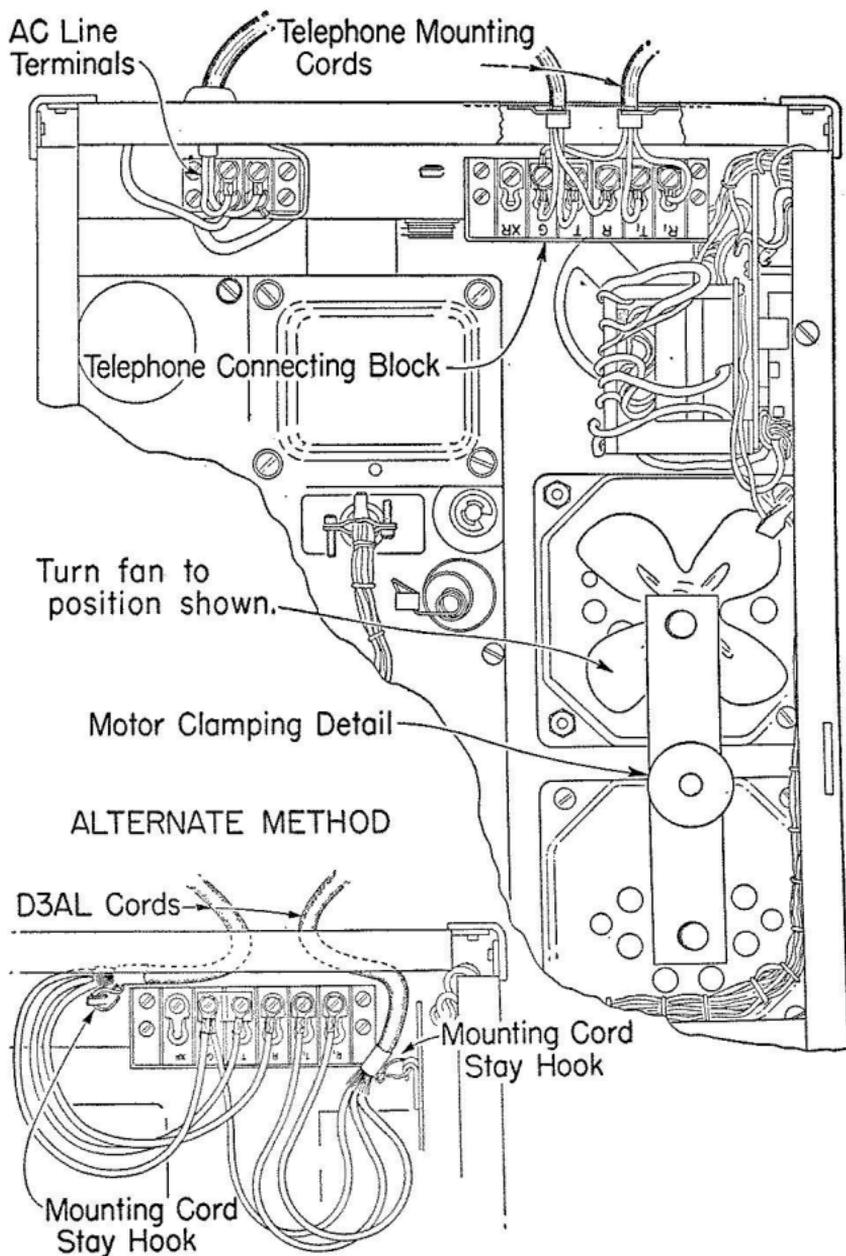

Fig. 4
- (c) Tighten the knurled nut on the motor clamping detail until the two motors are clamped securely against the panel (see Fig. 4). Care should be taken to position fan blade properly.
(d) The connecting block is located at bottom rear of the chassis (Fig. 4). Insert the telephone set mounting cord through the slot provided in the chassis. Fasten the cord to the stay hook. Bring the cord conductors forward and loop them so that the spade tips of the cords can be connected to the terminals from the front end of the block.
(g) Loosen the knurled nut on the motor clamping detail (Fig. 4) so that the motors are free when the machine is in its normal position.